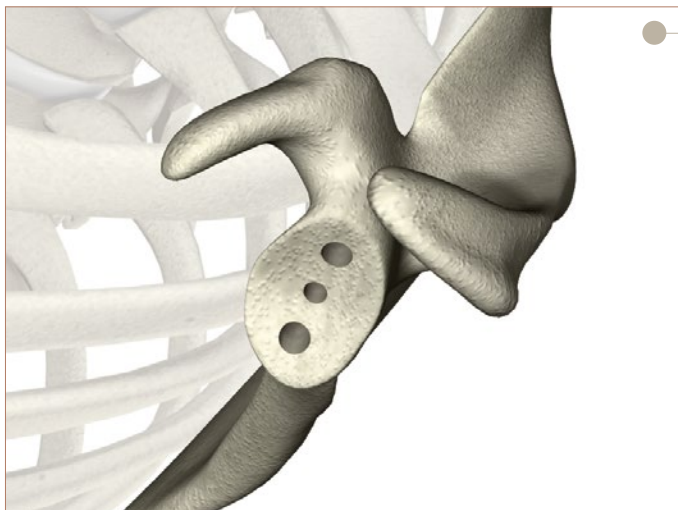

Figure 48
- ▶ The keeled glenoid punch is assembled to the 4-sided ratcheting handle and is introduced into the drill holes (Figure 48).